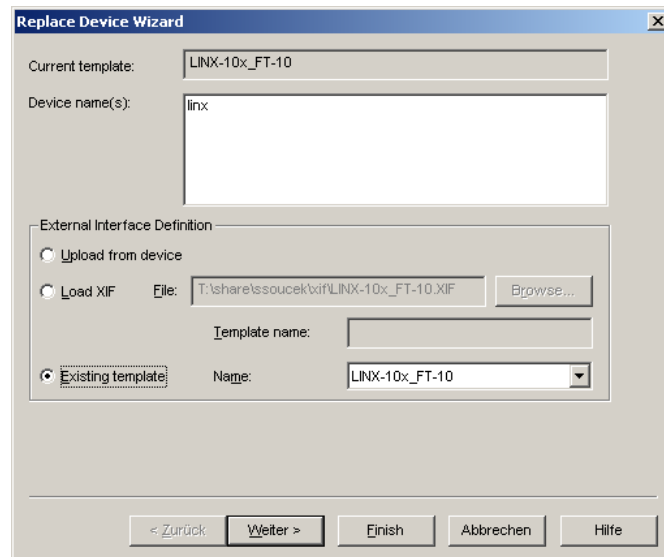

Figure 101: LonMaker replace device wizard.
2. Select **Commissioning** → **Replace....** This opens the LonMaker Replace Device Wizard as shown in Figure 101.